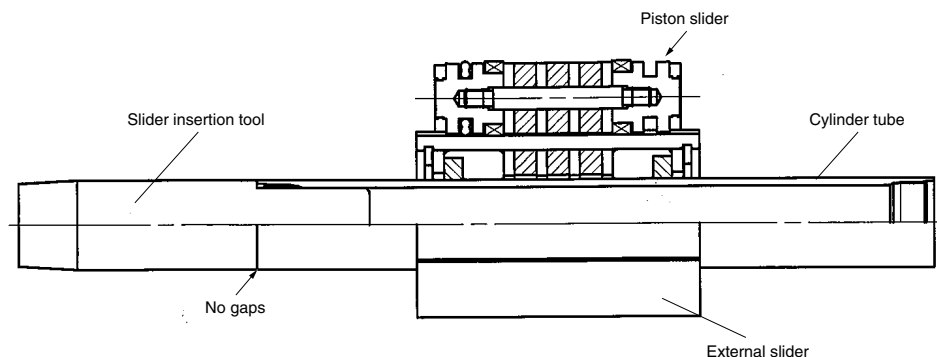

Fig. 5 Correct positioning (the centers of the sliders are aligned) ($\phi 10$)
- (1) Apply grease to the inner surface of the cylinder tube.
- (2) Place the piston slider on top of the external slider (For bore sizes other than $\phi 6$). For bore size $\phi 6$, the sliders have no insertion direction.
- (3) If the piston slider will not couple at the center of the external slider as in Fig. 6, rotate the piston slider 180° so it is positioned as in Fig. 5. If incorrectly positioned sliders are inserted into the cylinder tube as is, they will not magnetically couple as required.
- (4) Insert the slider insertion tool into the cylinder tube.
- (5) Confirm that the sliders are in the same state as in Fig. 5, and insert the greased external slider into the cylinder tube.
- (6) Remove the slider insertion tool from the cylinder tube.
- (7) Insert the greased piston slider into the cylinder tube.
- (8) Manually move the external slider back and forth multiple times to spread the grease within the cylinder tube.
- (9) Move the external slider to the stroke end, and lightly wipe off the excess grease adhering to the end surface of the piston slider.
- (10) After wiping off the grease adhering to the threads of the cylinder tube with alcohol, etc., apply adhesive (Loctite No. 542 (red)) to the cylinder tube or head cover threads, and then tighten the head cover.